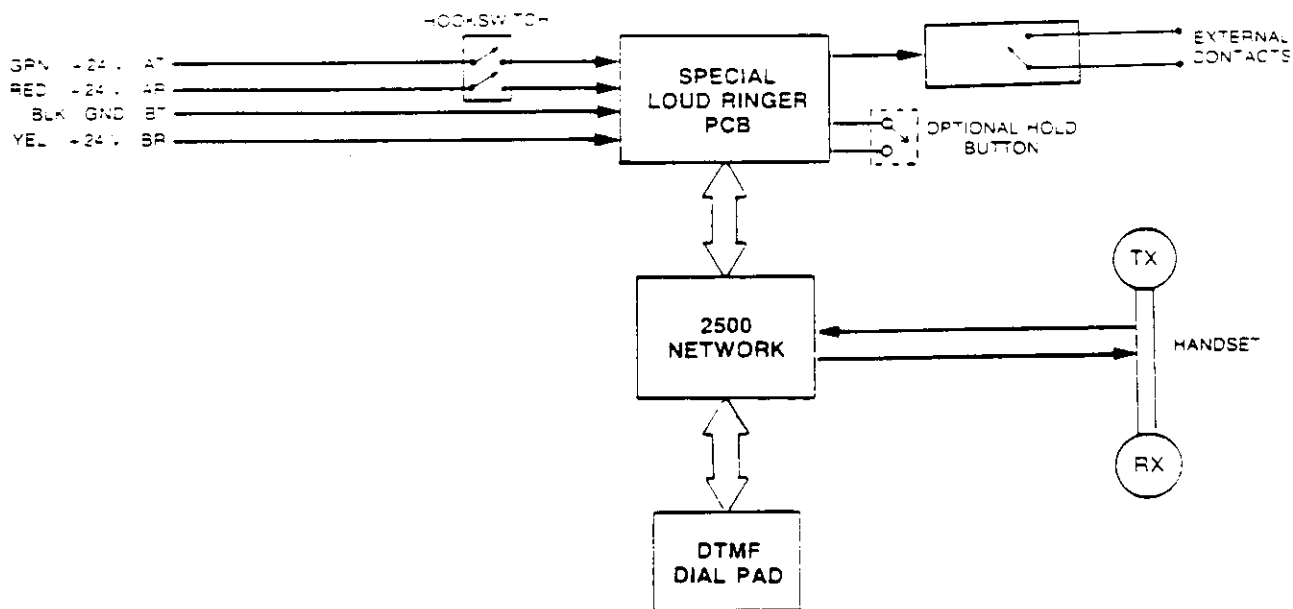

Figure 8-17 SINGLE LINE (2500 TYPE) TELEPHONE BLOCK DIAGRAM, EK-824/1232/1648
4.22 Standard single line (2500 type) telephones (Figure 8-17) may be connected to the system. These telephones must be equipped with special ringers and must be connected to a port on a B-8SLU-B PCB in the KSU.